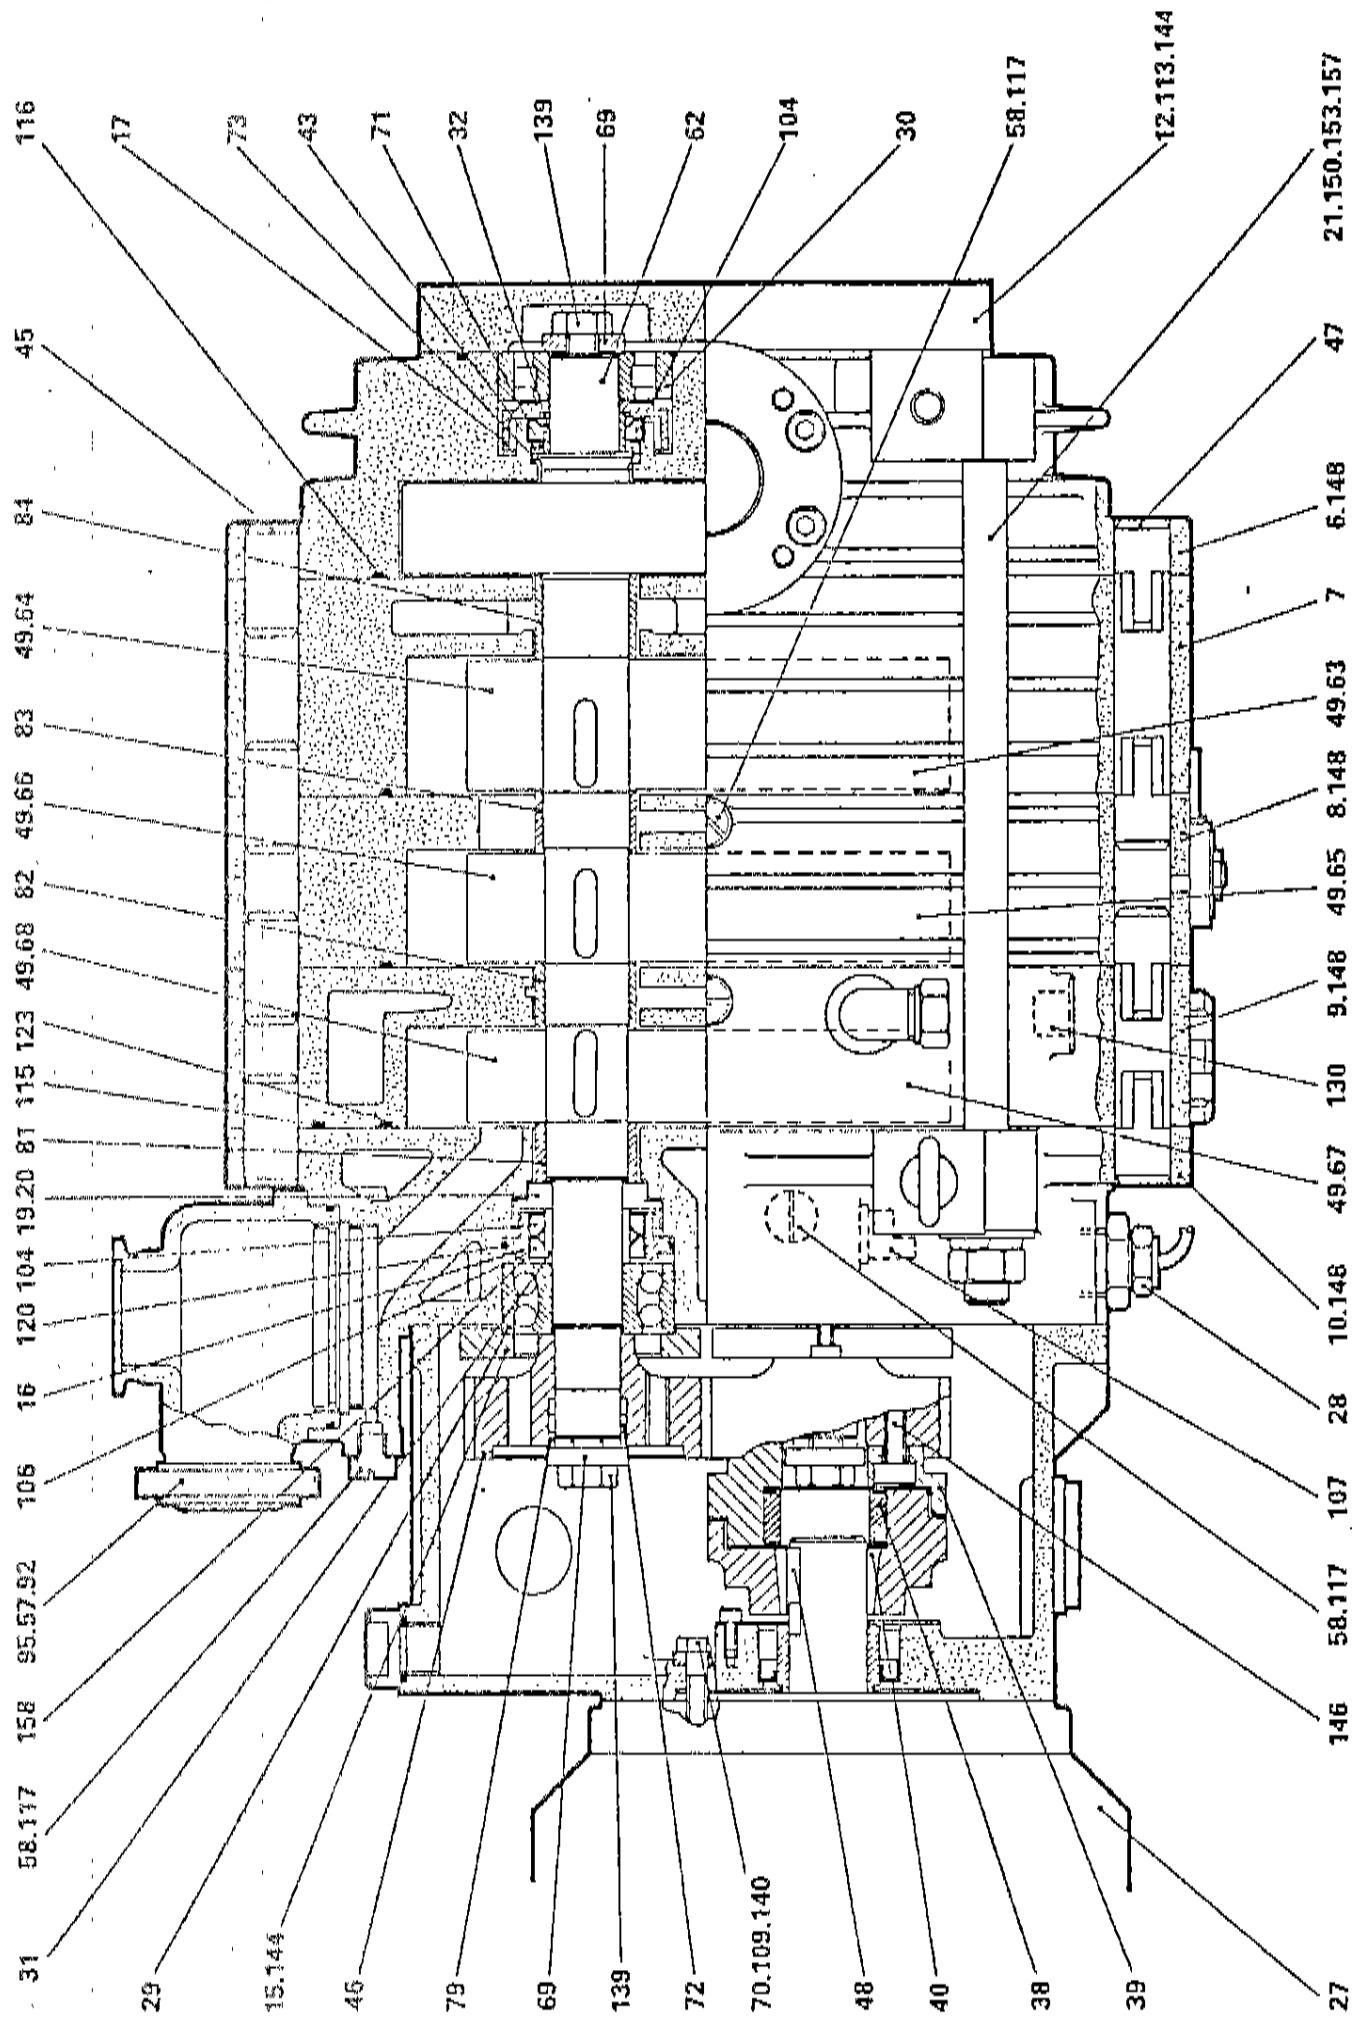

FIG.12 CROSS SECTIONAL VIEW OF DP80 'DRY' PUMP (50HZ)
To gain access to the valve, undo and remove the four screws securing the outlet connexion (13), Fig.12, to the low vacuum headplate (10). Remove the outlet connexion (13).
1. To seal internal evacuation of the roller bearings (30) Fig. 12 located at the high vacuum headplate end undo and remove the six screws securing the end cover (12) to the headplate (6).
2. Lift away the cover (12). Note the sealing O-ring (113).
3. Using a small screwdriver or suitable pointed tool ease the felt insert (42) from its location in the headplate (6).
5. Reassembly in the reverse sequence to dismantling. Ensure both headplate (6) and bearing end cover (12) faces are clean and that the sealing O-ring (113) lubricated with Fomblin RT15 or Krytox 240AD grease and is correctly positioned in its groove in the headplate (6).
1. Check pump oil level in the gear cover (Fig. (9)). This should be visible in the sight-glass between the MAX and MIN lines.
- 2.1 If an exhaust valve is used inspect, clean (and/or change) (56), Fig. 12, as necessary. To gain access to this valve, undo and remove the four securing screws securing the connexion to the low vacuum headplate (10). Remove the exhaust outlet connexion. Before assembly clean the mating faces of the outlet connexion (13) and headplate (10). Ensure the sealing O-ring is still in a serviceable condition. Otherwise renew. Lubricate the O-ring with Fomblin RT15 or Krytox 240AD grease.
- 3.1 It is recommended that the rotor bearings (30) are re-packed annually. Undo and remove the six screws securing the bearing end cover (12) Fig. 12 to the high vacuum headplate (6). Lift away bearing end cover (12). Check the sealing O-ring (113) and if it is either damaged or has deteriorated renew.